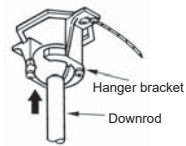

Fig.12
Step 8: Now lift motor assembly into position and place hanger ball into hanger bracket. Rotate until the groove has dropped into the registration slot and seats firmly. Rod should not rotate if this is done correctly(Fig.12)